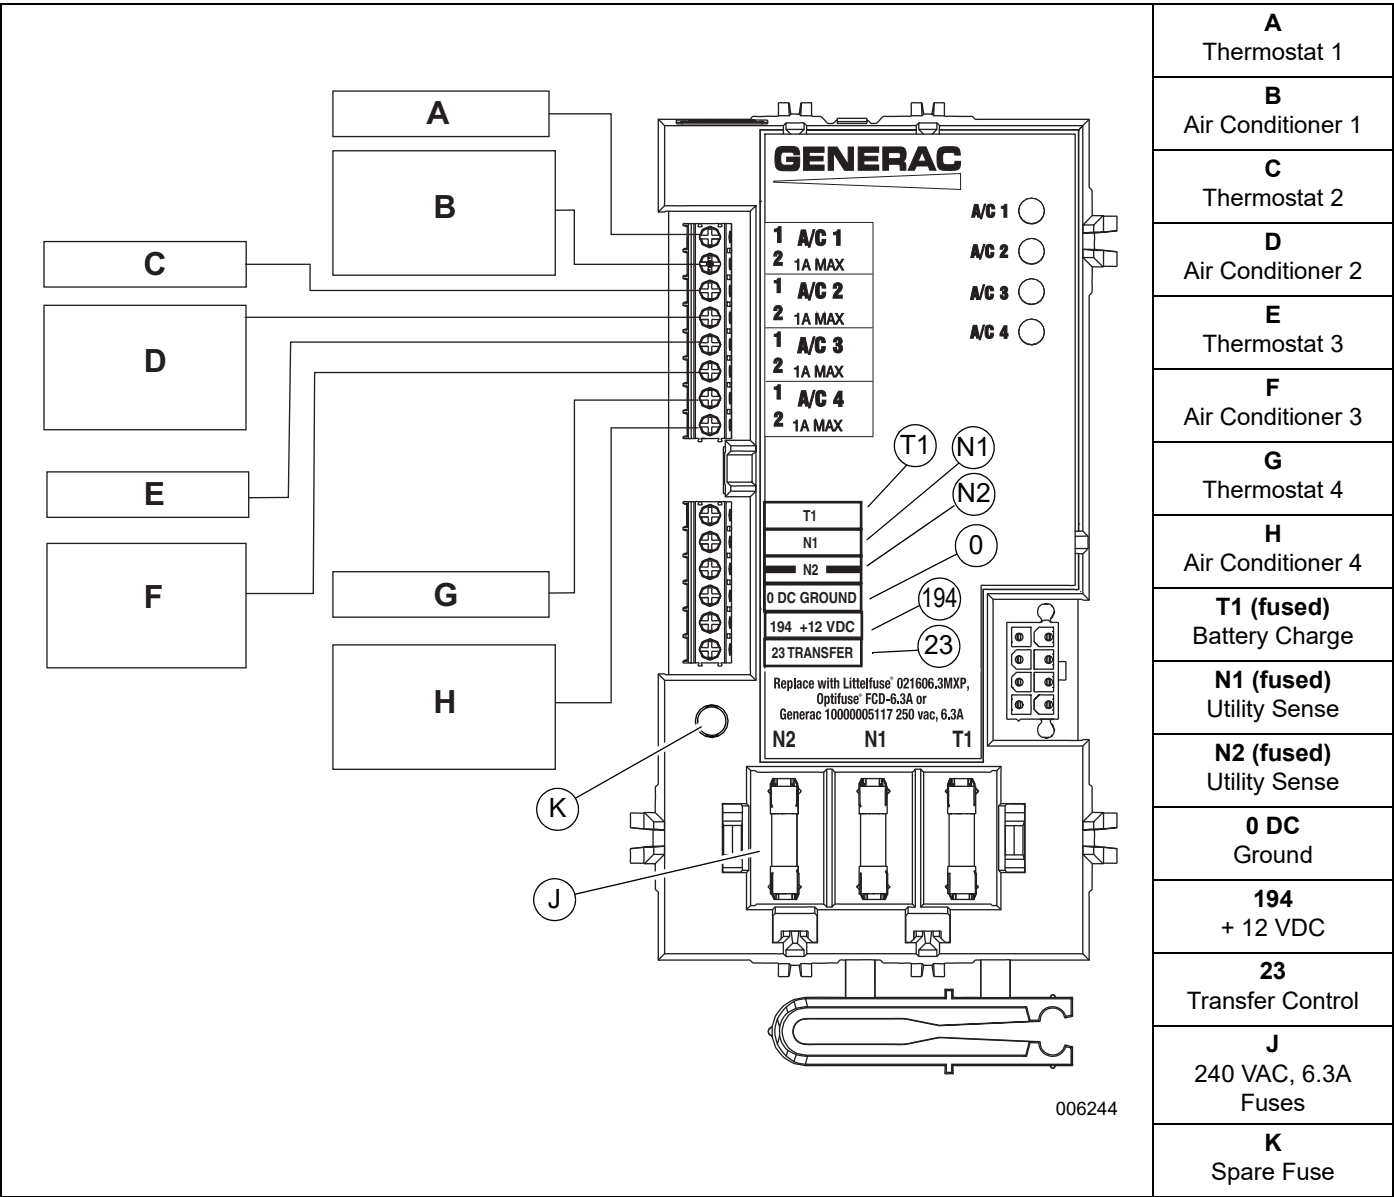

Figure 3-5. Typical SACM Connections
Control system interconnections consist of N1, N2, and T1, and leads 23, 0, and 194 (see Figure 3-5).
See Figure 3-5. The SACM can control an air conditioner (24 VAC) directly.
2. Connect the wire to the terminal strip terminals (A/C 1) on the SACM as shown in Figure 3-5. These are normally closed contacts which open upon load shed conditions. Route thermostat wire away from high voltage wires.